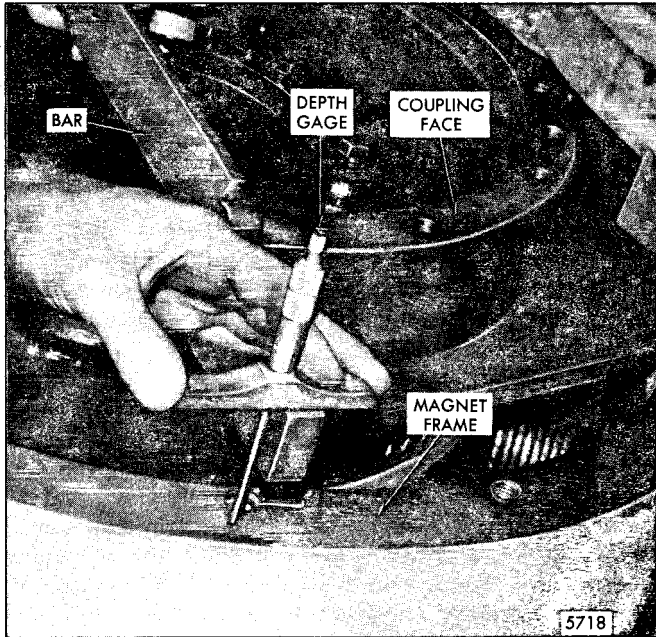
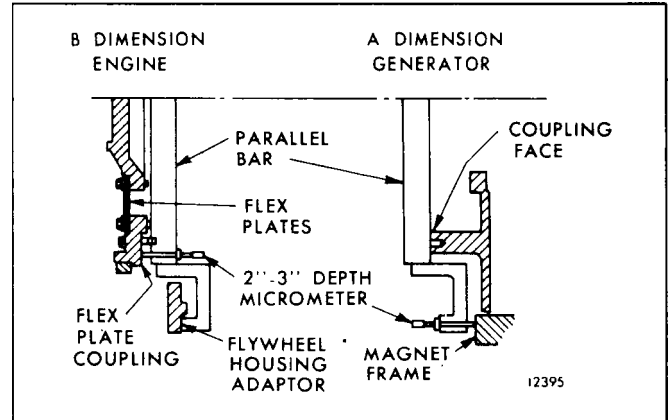
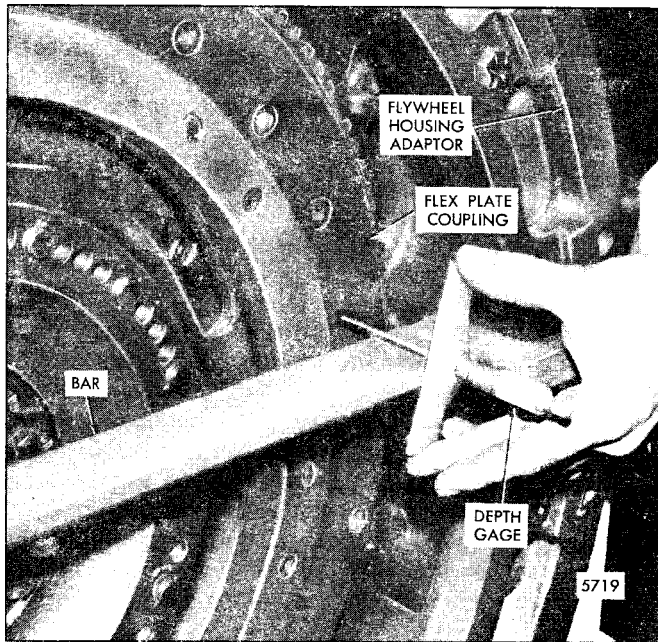

Fig. 3 - Measuring Distance from Generator Coupling Face to Magnet Face
Fig. 4 - Determining Shims Required Between Engine and Generator
Fig. 5 - Measuring Distance from Flywheel Housing Adaptor to Engine Flex Plate Coupling
3. Lower the armature toward the commutator end as far as the rear bearing will permit. Place a parallel steel bar across the generator coupling face and measure the distance between the coupling face and the magnet frame face with a depth gage (Fig. 3). Take four readings 90° apart and record the average of the readings. To center the ball bearings in the race seat, it is necessary to add one-half of the end play measured to the total distance determined. Record the average adjusted measurement (dimension "A" on Fig. 4).
4. Center the crankshaft end play and measure from the flywheel housing adaptor to the engine flexible plate coupling mating face using a parallel bar and depth gage (Fig. 5). Obtain four readings 90° apart and record the average measurement (dimension "B" on Fig. 4).